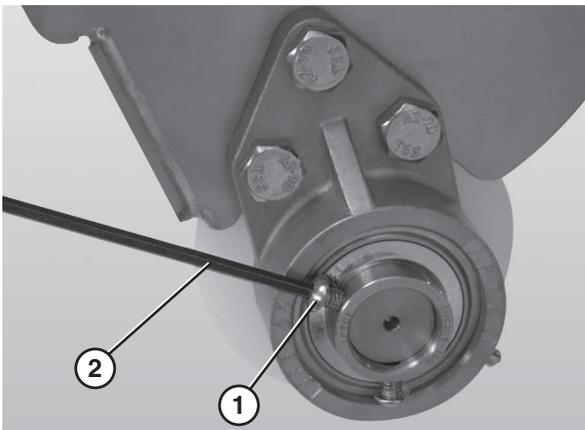

Figure 52
6. Loosen the 3 hole flange (**Figure 52, item 1**) with bearing fasteners using a hex wrench (**Figure 52, item 2**).